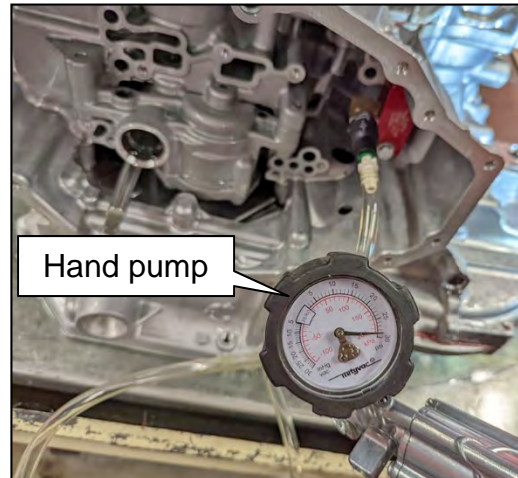

Figure 29
- b. Connect the hand pump from EVAP Pressure Test Kit (J-42909) to the Clutch Engagement Tool (J-52273) and pump to 30 PSI (Figure 29).